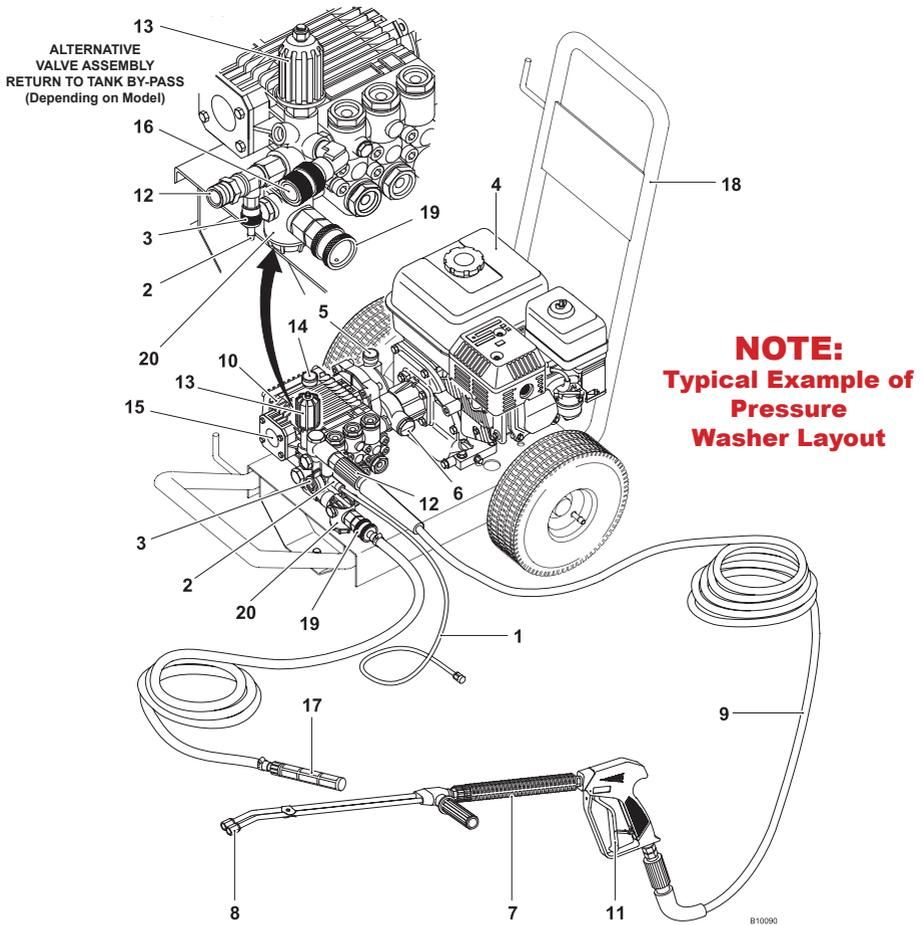

Fig 2 Description of main features
4. Description of Main Features (fig 2)
- 5.5 Connect the water return line to its connector and place the other end in the water supply container. (Bypass to tank models only) (Fig 2 item 16 & Fig 4).
6.2.3 Squeeze, the trigger to start the high-pressure jet, proceed to wash the object. Adjust the working pressure by turning the pressure regulator knob + or - to suit the application (fig 2, item 13). Never direct the high-pressure stream at the engine or pump as this could cause irreparable damage.
Attach the detergent induction pipe to the power washer, (fig 2, item 1) placing the opposite filter end into the detergent container. Select the low pressure setting on the lance, (see appendix 1 for details of your lance) and spray the water/detergent mixture onto the object being cleaned. Leave the detergent for the period recommended by the chemical manufacturer allowing it time to work, washing off with clean water. The volume of detergent used can be controlled by means of the regulator on the suction valve (see fig 2. item 3).